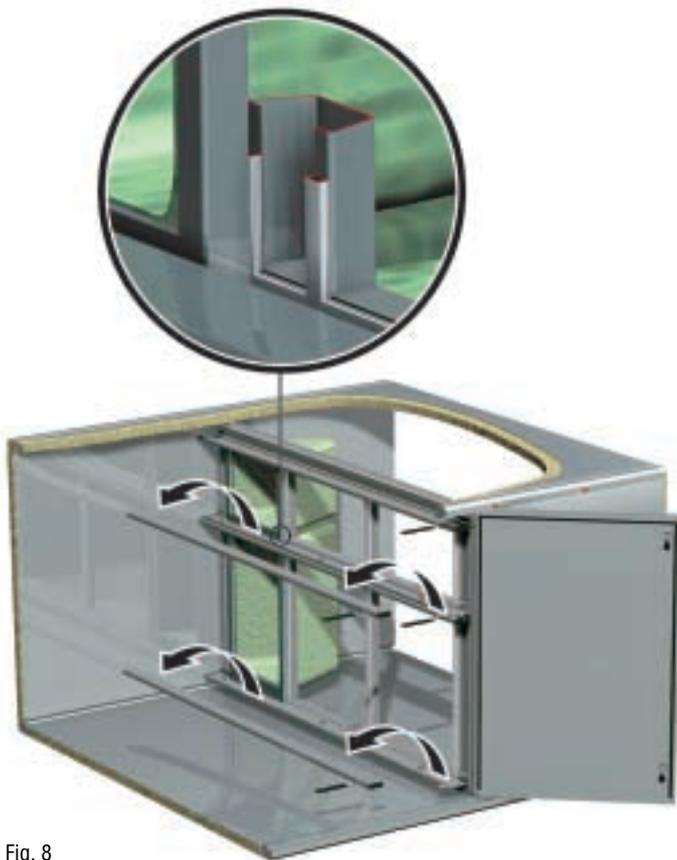

Fig. 8
- D. Lift out the lower excentric locking beam . Fig. 8
- G. Check that the filter seals on the filter frame are in good condition. If the pack is damaged, it must be replaced immediately. Fig. 8